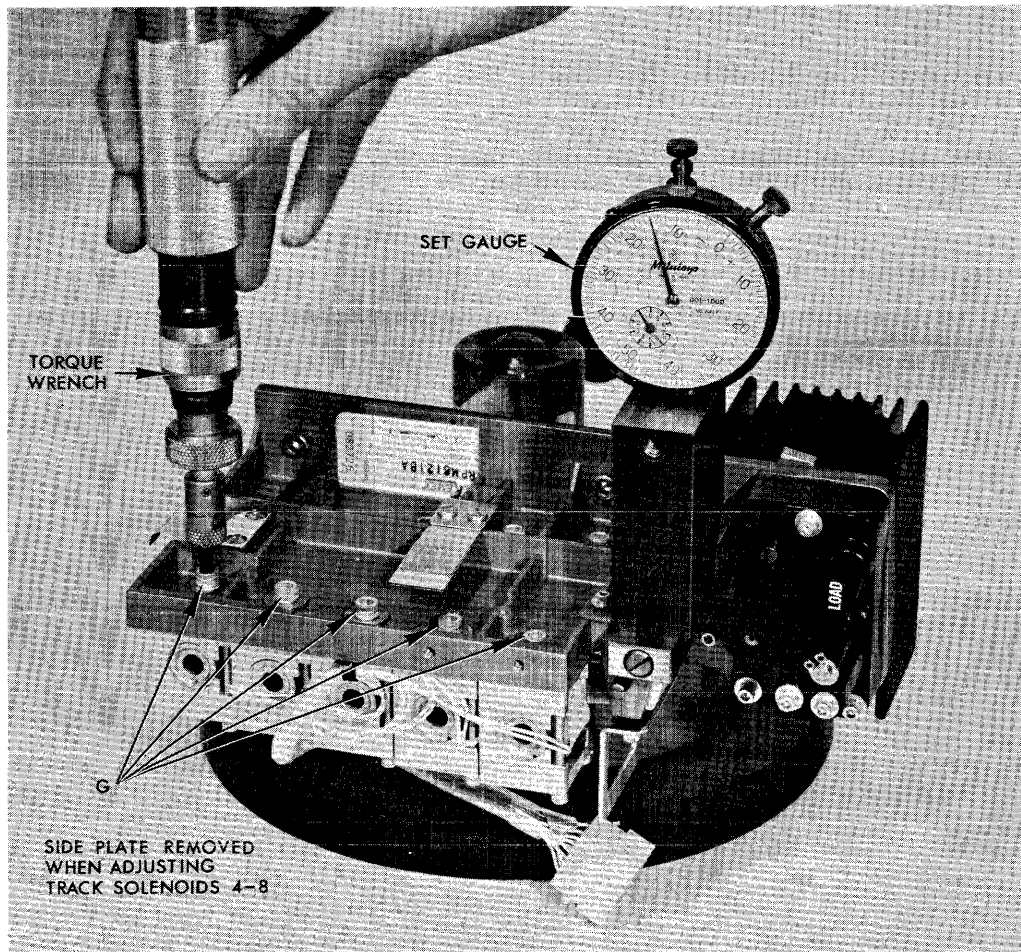

Figure 5-6. Setting Punch Pin Depth.
- d. Pull up on the indicator knob and slide the set gauge on the Punch and Pin Block die as shown in Figure 5-6. Gently lower the indicator knob into track 1 until the adaptor contacts the punch pin. Note the dial reading which should be  $0.015 \pm 0.001$ .
- e. If the condition in step d is not present, loosen screw (G) which holds the track 1 solenoid to the perforator housing and adjust the solenoid until the conditions in step c are met. The solenoid is adjusted by walking it back and forth along its ridge. Tighten screw (G) to 20-inch pounds. Use a torque wrench to establish this torque. The solenoid screw labeled (G) in Figure 5-6 is the same screw labeled (G) in Figure 7-1.